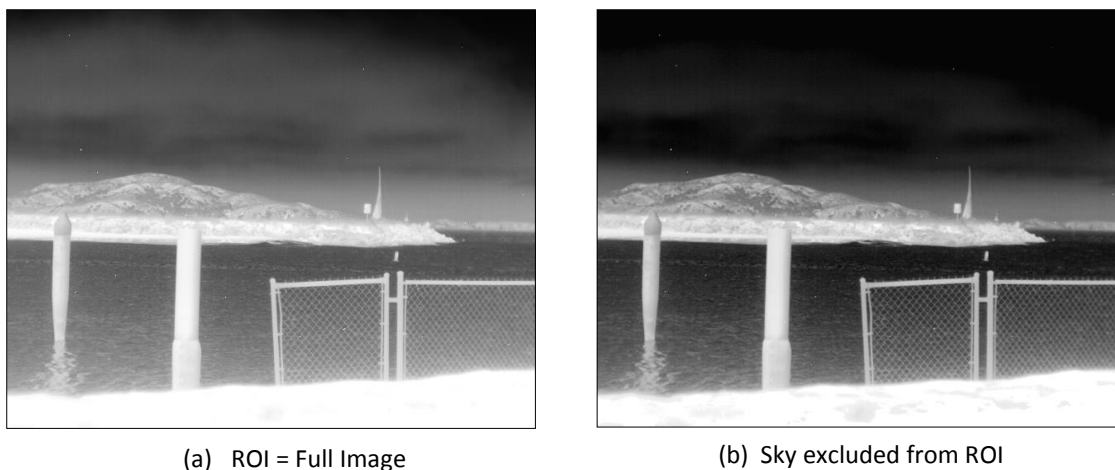

Figure 10: Illustration of ROI
- The coordinates of the AGC region of interest (ROI) are specified as a percentage of the zoom window size (relative to the center of the zoom window), and the ROI is automatically sized / located relative to the zoom window. This feature precludes the user from having to change size and/or location of the ROI as the zoom window size or location is modified. Figure 10 illustrates ROI for the following coordinates:
Region of Interest (ROI). In some situations, it is desirable to have the AGC algorithm ignore a portion of the scene when collecting the histogram. For example, if the Tau 2 core is rigidly mounted such that the sky will always appear in the upper portion of the image, it may be desirable to leave that portion of the scene out of the histogram so that the AGC can better optimize the display of the remainder of the image. This is illustrated in Figure 10. Similarly for a hand-held application, it may be desirable to optimize the display of the central portion of the image. For those applications, it is possible to specify a region of interest (ROI) beyond which data is ignored when collecting the image histogram. Any scene content located outside of the ROI will therefore not affect the AGC algorithm. (Note: this does not mean the portion outside of the ROI is not displayed, just that the portion outside does not factor into the optimization of the image.)